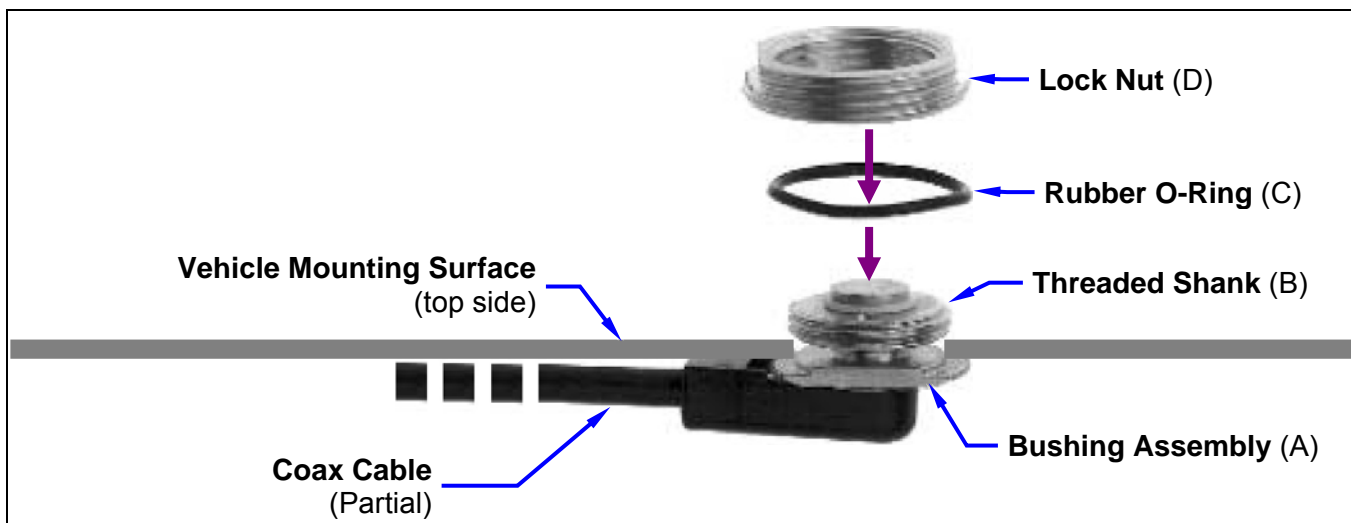
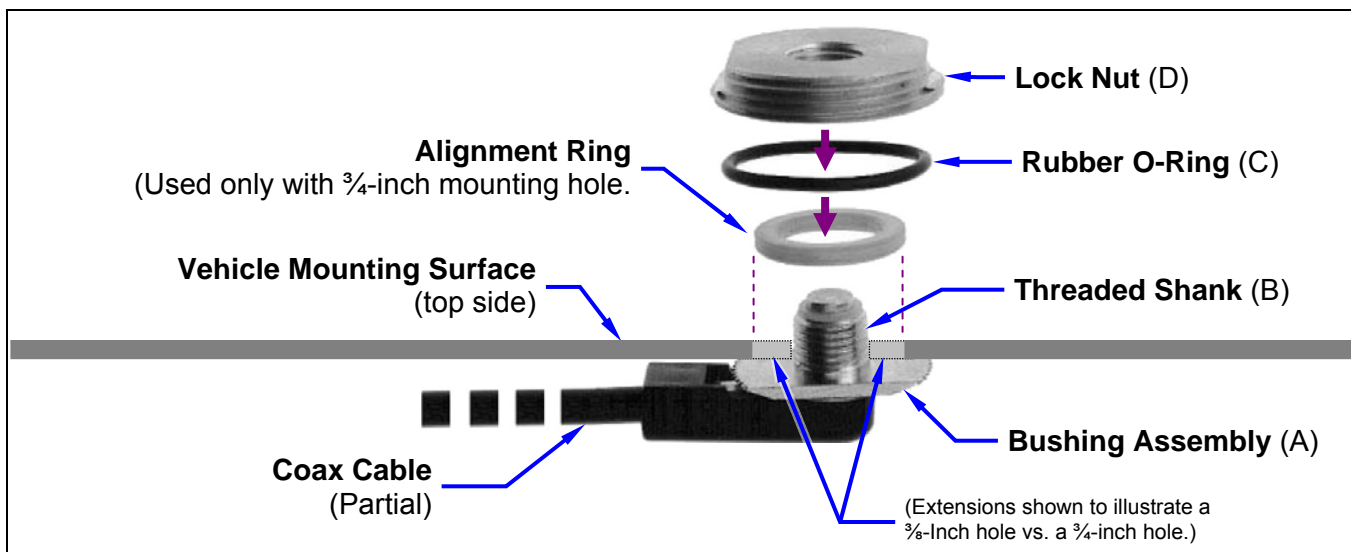

Figure 7-2: Installing a Standard $\frac{3}{4}$ -Inch NMO Antenna Mount
Figure 7-3: Installing a Thick-Roof NMO Antenna Mount
11. As illustrated in Figure 7-2 and Figure 7-3, add the O-ring (C) and lock nut (D) to the top of the mount's bushing assembly (A). With the O-ring in the groove in the underside of the lock nut, thread the lock nut onto the bushing assembly. Be sure the O-ring remains in the groove before tightening the lock nut.
2. Place the gasket included with the antenna element (not pictured in Figure 7-2 or Figure 7-3) around the mount and against the surface of the vehicle. If a lubricant or sealant was included with the gasket, apply it to the gasket before placing the gasket.